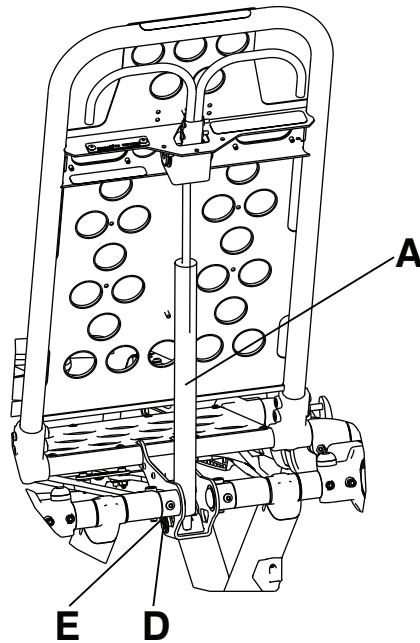
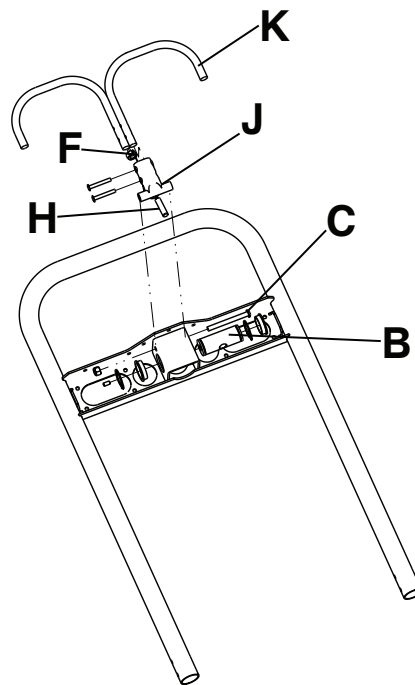

Figure 4 – Backrest adjustment
Figure 5 – Remove the backrest components
- Before you continue with the backrest adjustment procedure, make sure that the cylinder (A) is threaded into the yoke (B) so no threads are showing on the shaft of the cylinder (Figure 4 and Figure 5).
- a. Using a 3/32" hex wrench, remove the set screw (C) from the center of the yoke. Save the screw.
- b. Using a small slotted screwdriver, remove the E-clip (D) and pin (E) that secures the bottom of the pneumatic cylinder.
- c. Thread the cylinder shaft (A) into the yoke (B) so no threads are showing.
- d. Using a small slotted screwdriver, replace the E-clip (D), pin (E), and set screw (C) using **Loctite®** (Figure 4 and Figure 5).
2. Using a 1/2" combination wrench, loosen the hex nut (F) on the backrest pivot (J) while you hold the set screw (H) fixed in the pivot (Figure 5).
3. Using a 5/32" hex wrench, turn the set screw (H) until there is no play between the backrest release handle (K) and the pneumatic cylinder release button (Figure 5).
6. Using a 1/2" combination wrench, tighten the hex nut (F) while you hold the set screw fixed in the pivot (Figure 5).